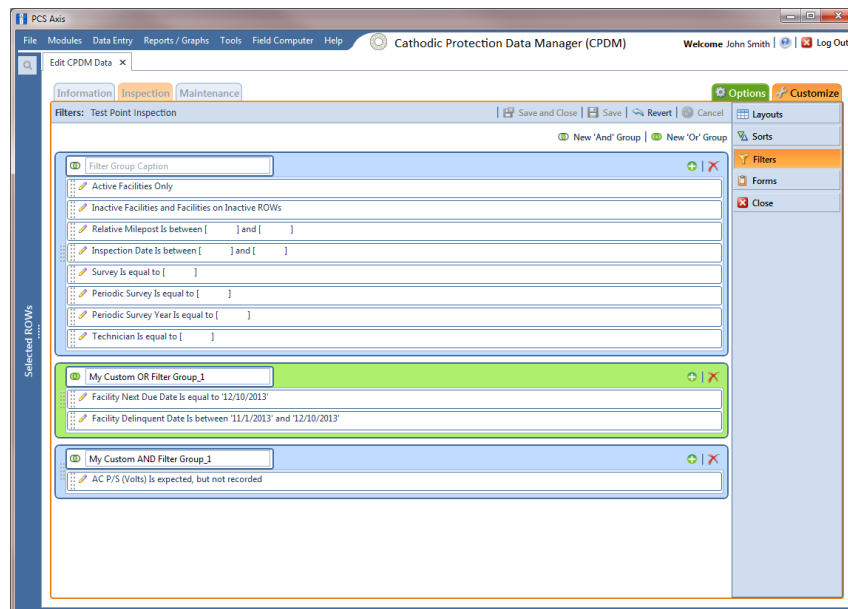

Figure 7-121. Filters
- 4 Click the **Customize** tab , then the **Filters** button  to open the *Filters* page (Figure 7-121).